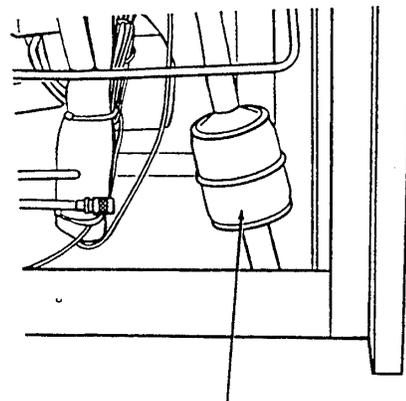

Figure 45. Filter Drier
4. Replace filter drier using the appropriate brazing material (Figure 45).